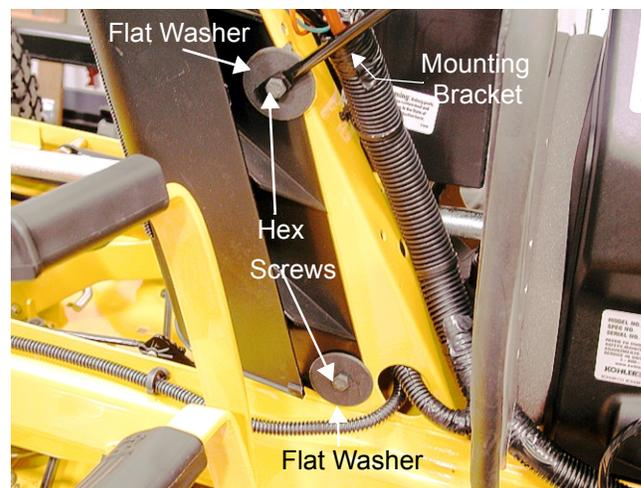

Figure 2
- Remove both hex cap screws and large flat washers securing the right dash panel and right mounting bracket to the tractor frame using a 7/16 in. socket. See Figure 2.